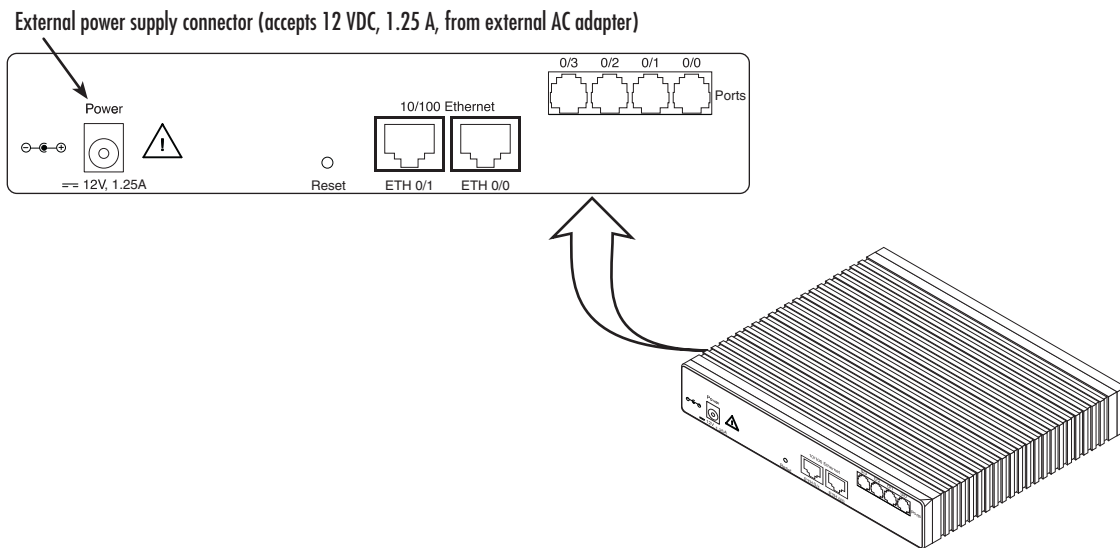

Figure 12. Power connector location on rear panel
1. Insert the barrel type connector end of the AC power cord into the external power supply connector (see figure 12).